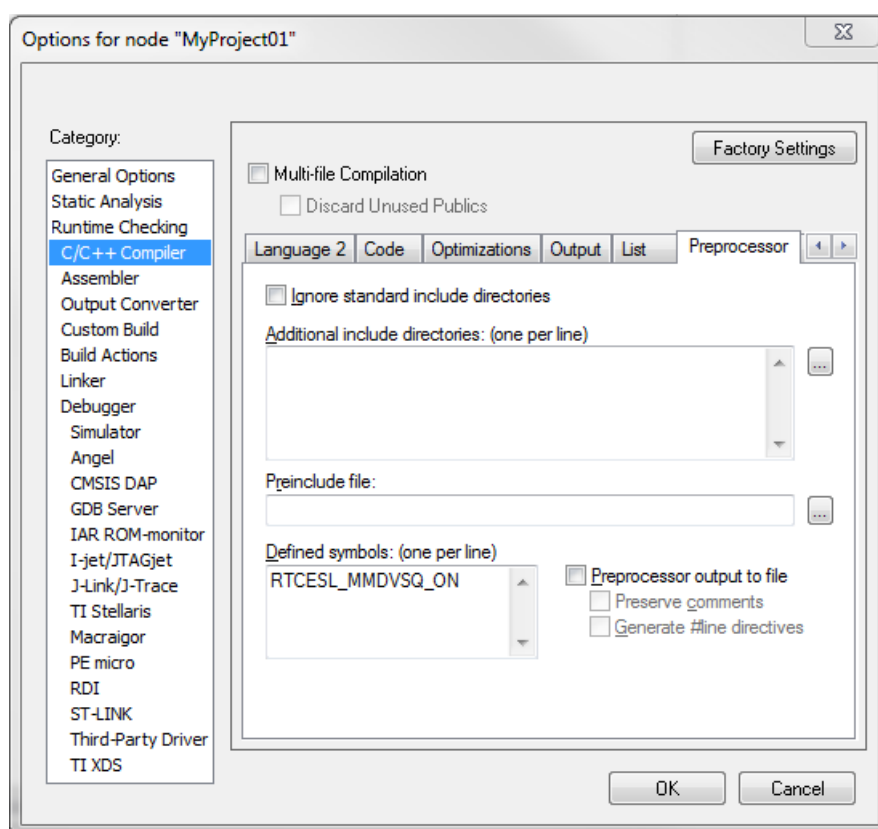

Figure 1-41. Defined symbols
4. In the text box (at the Defined symbols: (one per line)), type the following (See Figure 1-41):